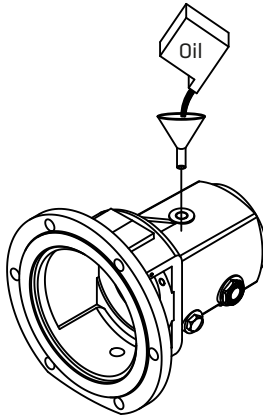

Figure 12. Adding Oil
• **The oil lubricated bearing housing is delivered without oil and on it, there is a warning symbol for indication. The housing should be filled with oil until the oil comes on the middle (see. Figure 12 and 13).**